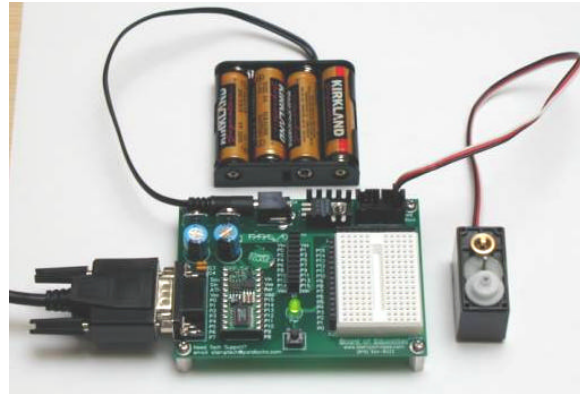

Figure 1.20: Servo prepared for centering.
- ❑ Reconnect the disassembled servo to the BOE as shown in Figure 1.20.